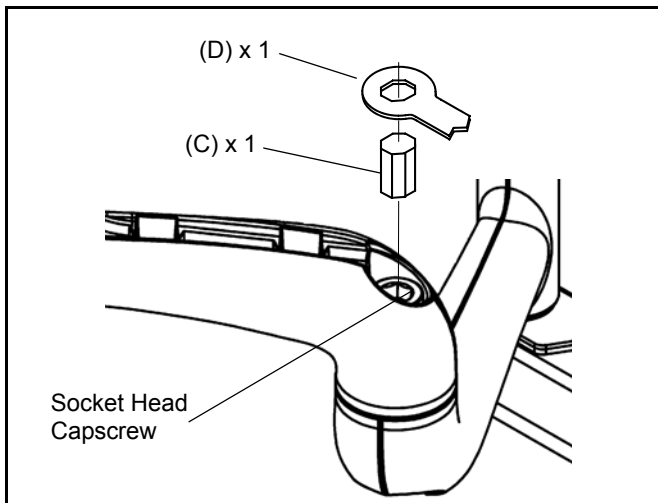

Figure 12
1. Locate the adjustment bar (H) and adjustment wrench (J).
2. Place adjustment bar (H) into socket head cap screw located at swing arm pivot point. (See Figure 12)